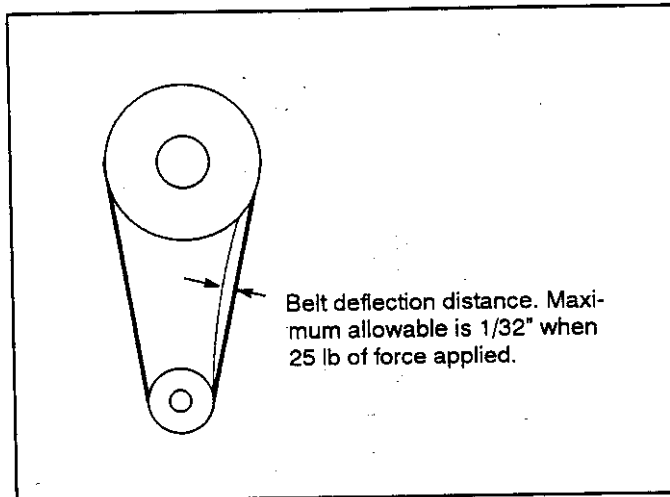

Figure 31. Elevation Drive Belt Deflection.
- b. Inspect the elevation drive belt for correct tension by determining the amount of deflection on the side of the belt. The method for measuring belt deflection is shown in Figure 31.